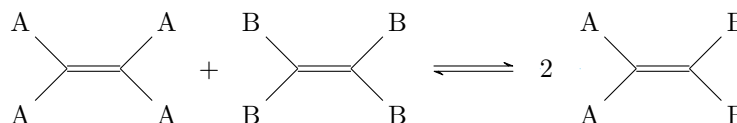

Figure 3.8: The general form of olefin metathesis.
- The olefins are not always tetrasubstituted, but we draw it as in Figure 3.8 to illustrate the point.